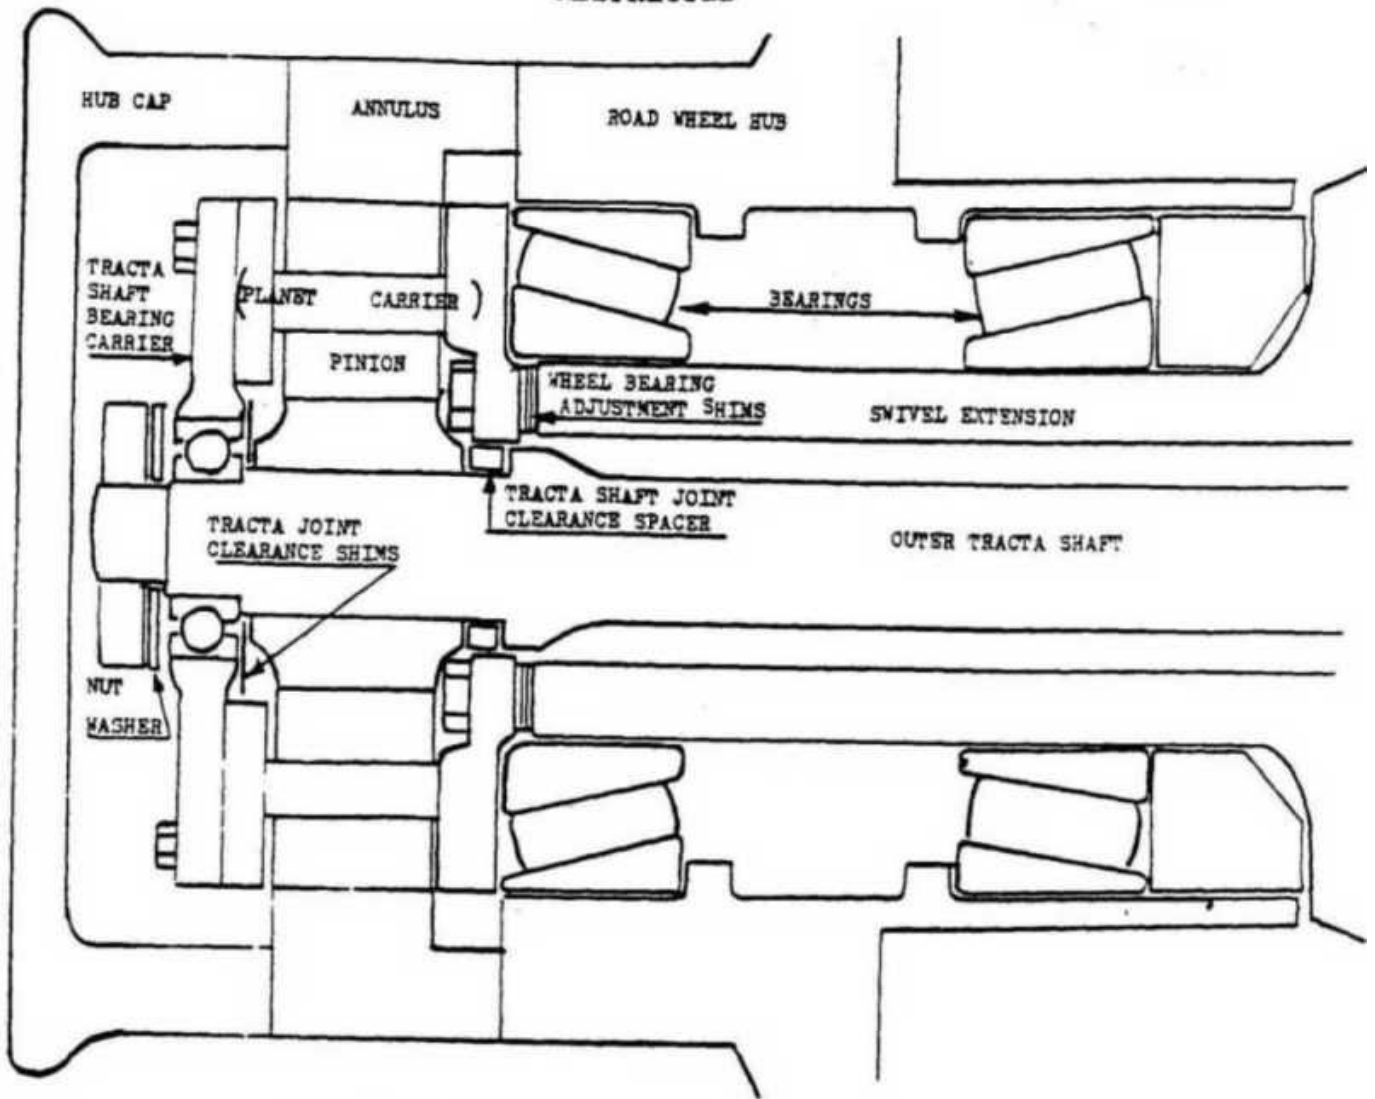

Fig 6.3 HUB ASSEMBLY
6.4 Hubs and final drives. The wheel station outer tracta joint is housed within the swivel assembly. (Fig 6.2) The joint output forked shaft extends through the swivel extension and has the final drive epicyclic sun splined to its outer end. Bolted to the end of the swivel extension is the hub reduction gear planet carrier. On machined journals on the swivel extension are the hub taper roller bearings on which the hub turns. The inner track of the outer hub bearing butts against the back of the planet carrier and bearing running clearance is adjusted by placing shims between the end of the swivel extension and the boss of the planet carrier. (Fig 6.3) With the hub and planet carrier in place the reduction gear annulus is bolted to the hub so, when the vehicle is driven forward, the epicyclic sun must turn backwards to spin the pinions forward (because the planet carrier is stationary) and the pinions drive the annulus and hub and wheel forward.
To adjust the running clearance of the hub tracta joint spacers and shims are used to position the outer tracta shaft on the sun. The spacers are placed between the rear of the sun and the ends of the shaft splines and the shims between the front of the sun and the shaft outer support bearing. (Fig 6.3)